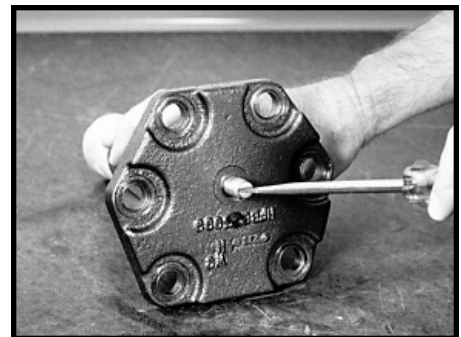

Figure48
- 12. Screw the sector shaft adjusting screw (51) through the side cover (58 or 58A). SEE FIGURE 48. Place the side cover exterior side down and lift the sector shaft out vertically. SEE FIGURE 49.